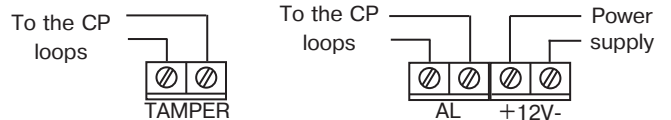

Figure 7
- Fulfill connections in accordance with Figure 7.